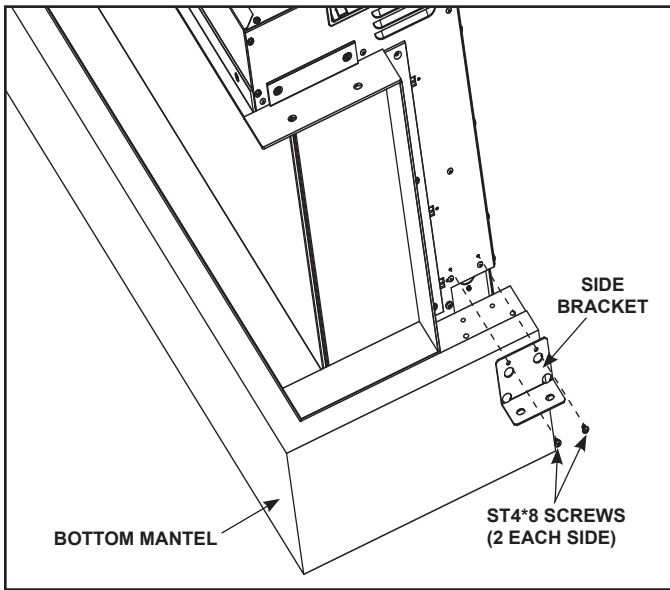

Figure 13
5. Attach two (2) side brackets to the rear sides of the appliance using four (4) ST4\*8 screws. See Figure 13.